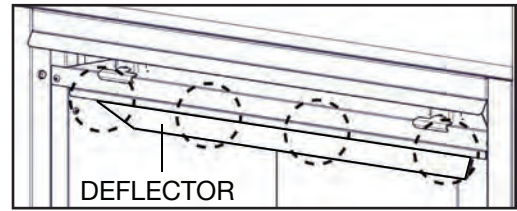

Fig. 1
- To ease assembly, remove the four hex head screws securing the deflector from inside the top front of the firebox (**Fig. 1**). Set deflector aside.